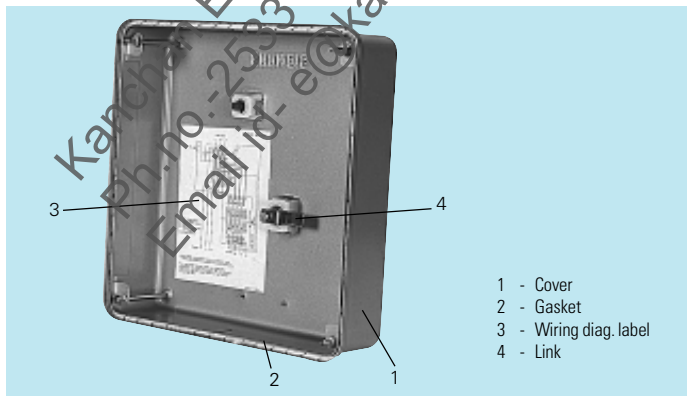

Fig. 13
- Remove the front cover (fig. 13)
- Setting of 'Auto / Hand Reset' mode (Ref. fig. 13):